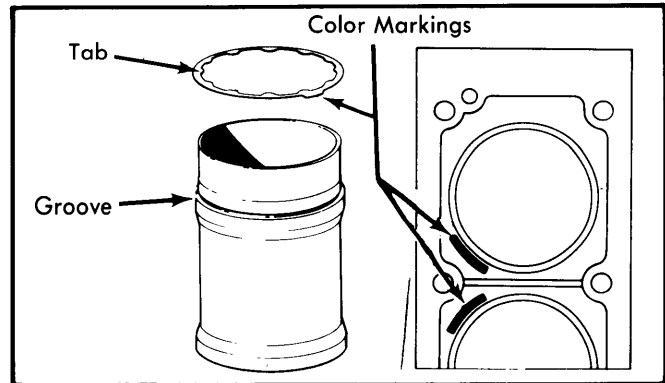

Fig. 11 Positioning Shims on Liners
5) Install shims with color marking up and positioned as shown in Fig. 11. Inner tabs on shims should be in liner groove.